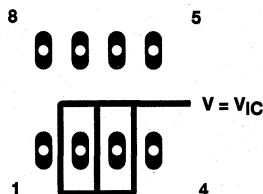
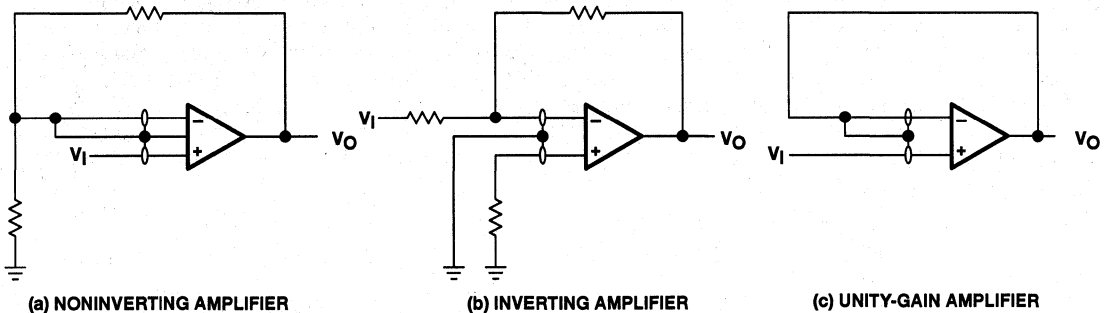

Figure 95. Isolation Metal Around Device Inputs
Figure 101. Guard-Ring Schemes
- Isolate the device from other potential leakage sources. Use a grounded shield around and between the device inputs (see Figure 95). Leakages that would otherwise flow to the inputs are shunted away.
Because of the extremely high input impedance and resulting low bias-current requirements, the TLV2341 is well suited for low-level signal processing; however, leakage currents on printed-circuit boards and sockets can easily exceed bias-current requirements and cause a degradation in device performance. It is good practice to include guard rings around inputs (similar to those of Figure 95 in the Parameter Measurement Information section). These guards should be driven from a low-impedance source at the same voltage level as the common-mode input (see Figure 101).